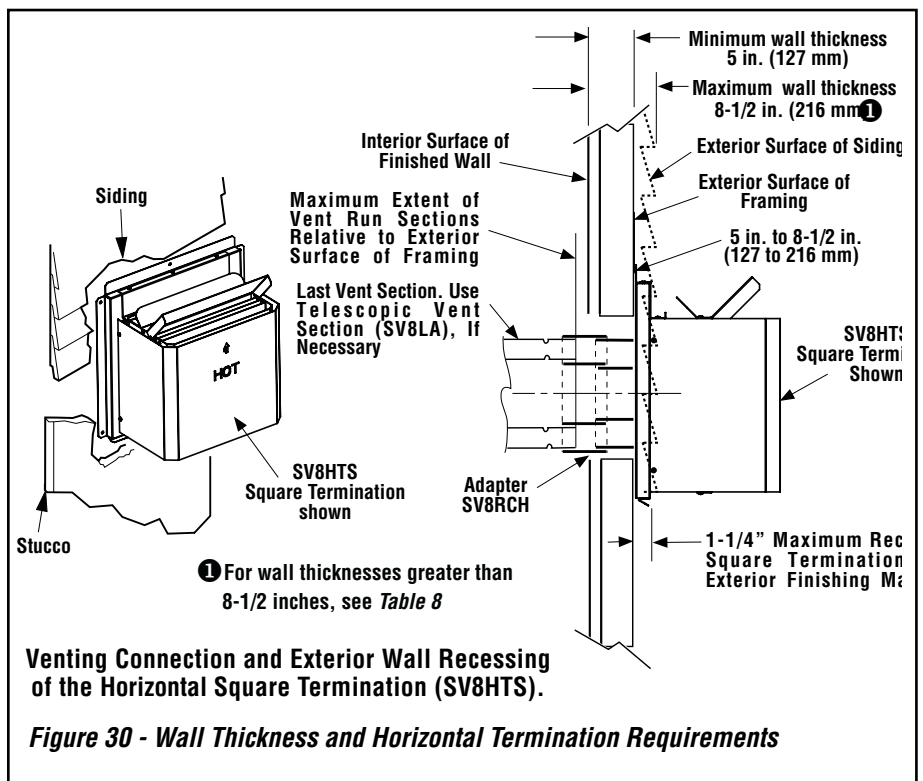

Figure 30 - Wall Thickness and Horizontal Termination Requirements
J. Assemble vent run to exterior wall - If not previously measured, locate the center of the vent at the exterior wall. Prepare an opening as described in **Step B**. Assemble the vent system to point where the terminus of the last section is within 5 in. (127 mm) to 8-1/2 in. (216 mm) inboard of the exterior surface to which the SV8HTS termination is to be attached, see **Figure 30** and **Table 8**.
If the terminus of the last section is not within this distance, use the **telescopic vent section SV8LA**, as the last vent section. For wall thicknesses greater than that shown in **Figure 30**, refer to **Table 8 on Page 19**. This table lists the additional venting components needed (in addition to the termination and adaptor) for a particular range of wall thicknesses.
M. Install the square termination (SV8HTS)- For the last step, from outside the exterior wall, slide the collars of the termination onto the adaptor (the outer over the outer and the inner inside the inner) until the termination seats against the exterior wall surface to which it will be attached. Orient the housing of the termination with the arrow pointed upwards. Secure the termination to the exterior wall. **The horizontal termination must not be recessed into the exterior wall or siding by more than the 1-1/4" (32 mm) as shown in Figure 30.**